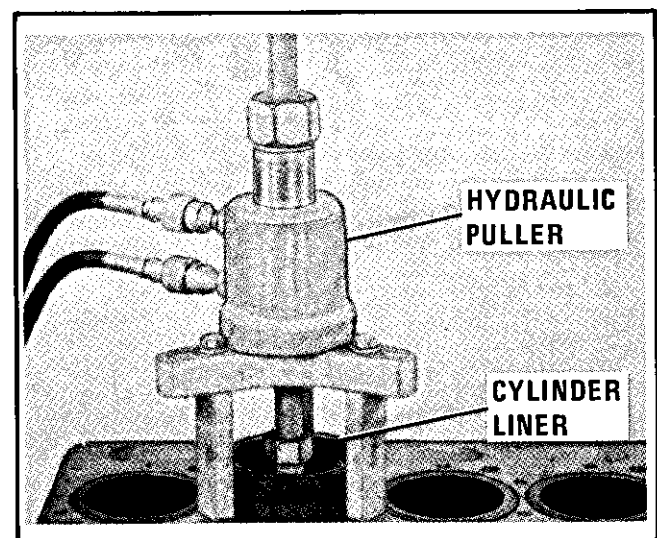

Figure 2-20. Cylinder liner removal
Press the camshaft bearings (17, 18) out of cylinder block with suitable tool and press. Use a hydraulic puller, or equivalent, to remove cylinder liners (9) as shown on figure 2-20. Discard all preformed packing and gaskets and replace at assembly. Assembly is essentially the reverse of disassembly and the following details: